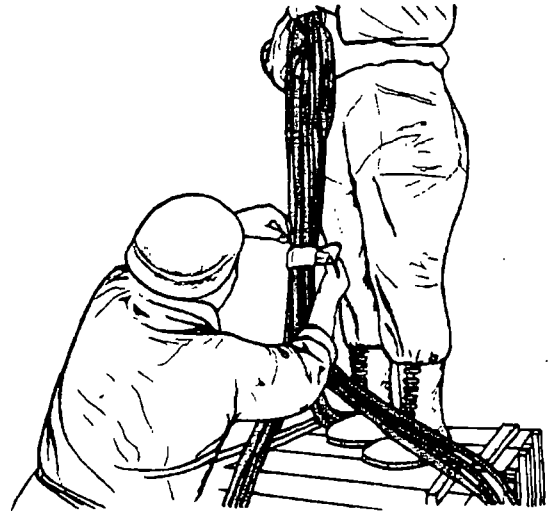

Figure 1-11. Taping Lifting Legs
Step 5 - All four sides of the net are now ready to be pulled up around the load. Begin by having the person on top of the load hold the apex up and another person tape or tie all 16 lifting legs together at 3- to 4-foot intervals until no more slack can be pulled up on the legs. If the load is small, you may have to tape or tie the net together above the load. Tape or tie the legs and net so that the net does not snag on the load as the helicopter lifts the net (Figure 1-11). Use breakaway technique so that the tape or tie breaks after the slack is removed from the legs and net.